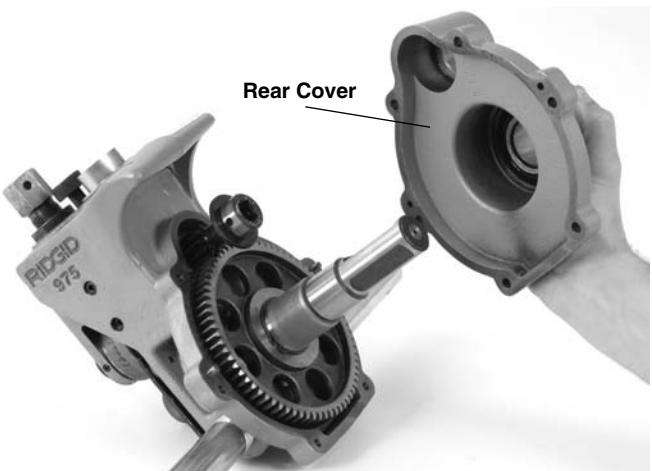

Figure 18 – Removing Rear Cover
- Remove the rear cover (*See Figure 18*).